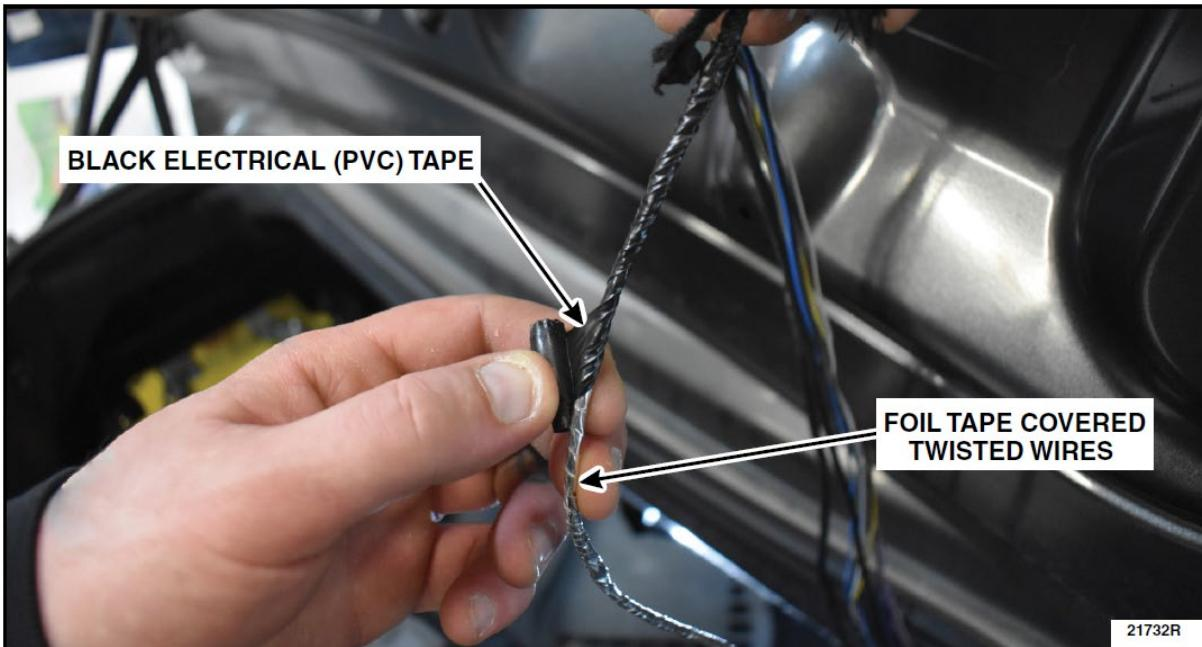

FIGURE 43
62. Wrap the full length of the foil tape covered twisted wires using some KTI73510 or equivalent black electrical (PVC) tape over lapping by 50 percent. See Figure 43.